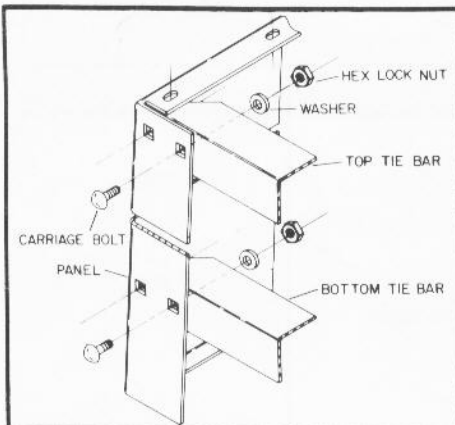

Fig. 4
1. Assemble the four braces to the two panels of the stand, as shown in Fig. 4, using the 16 carriage bolts, flat washers and locknuts. The two 19 1/8" long braces will be positioned on the top of the stand and the two 21 7/16" long braces will be positioned on the bottom.